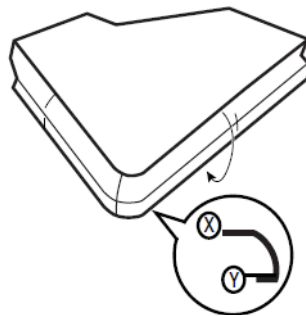

Figure 13. Apply Adhesion Promoter Between X and Y
2. Apply adhesion promoter to the edges, starting about 1/2 inch from where the shape changes (see Reference X) and extending to the back side of the surface for at least 1/2 inch (see Reference Y). Allow the adhesion promoter to dry to improve adhesion and minimize shrinkage. See Figure 13.